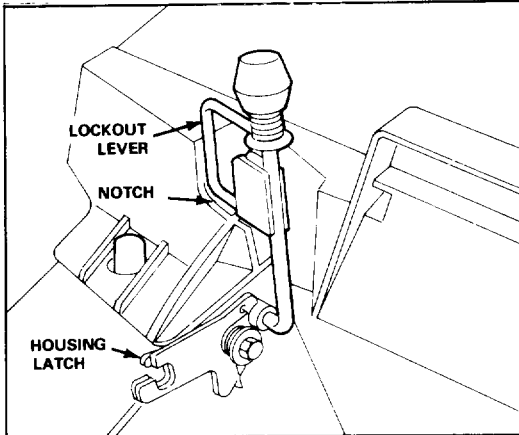

Figure 11
4. Squeeze lockout lever until it clears the housing latch. Then move handle rearward until it locks in notch at rear of bag latch (Fig. 11). The chute door in mower housing is now open and mower is ready to bag grass.